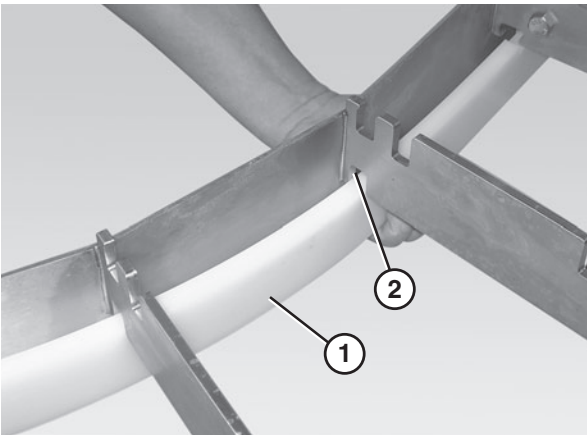

Figure 38
1. Insert the inside return bottom wear strip (Figure 38, item 1) into the slots (Figure 38, item 2) on the lower inside section of the frame (figure shown without the belt or wear strips).
2. Attach the chain return shoes (Figure 38, item 1) to the curve return shafts (Figure 38, item 2).